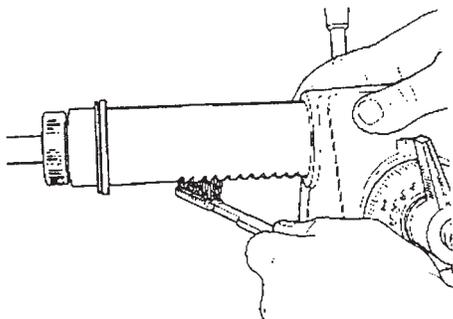

Figure E-2
- b. **Quill** - Extend the quill as far as it will go, lock it in place, then wax. After waxing, brush the rack with a stiff brush to remove all the residue between the teeth, see Figure E-2.